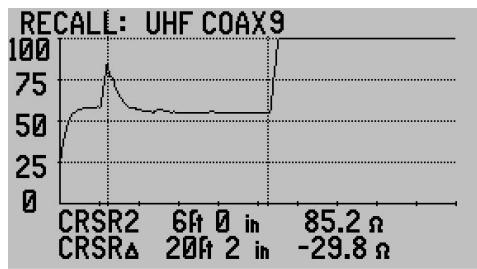

Figure 4-4
– Press to recall the highlighted trace. This action will return the TDR to the Measurement Screen with the selected trace as in the example shown in figure 4-4. “RECALL:” and the saved trace’s name indicates a saved trace is being displayed.